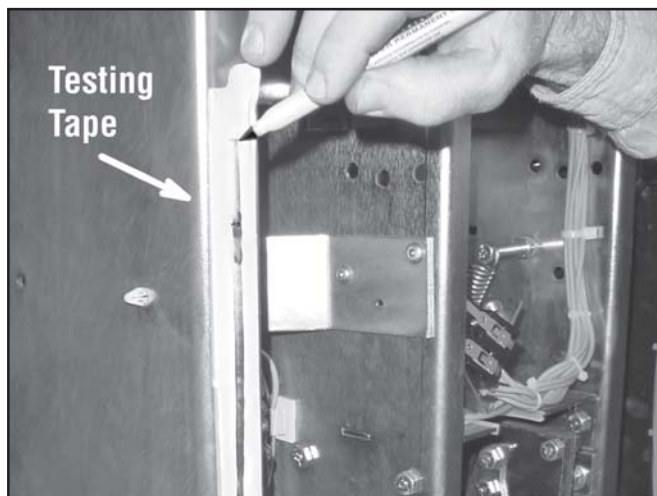

Figure 6-14 Evaluate the CloSure™ Performance
Step 12 - Inspect the circuit breaker to assure it is in the open position and the closing springs are discharged. Remove the transparent CloSure™ Tool. Remove the tape from the cam and stick the tape on the front right side sheet of the circuit breaker. Record the date of the test and the operations counter reading on the tape (Figures 6-14 and 6-15).